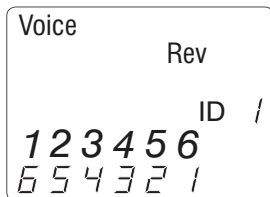

Figure 4. Voice Mode Test with Rev Cable
- **Single Test:** To run a single test on the 6-position connected voice cable, press the VOICE MODE button. The following appears in the LCD display screen (see Figure 4):
1. Continuous Test: To run a continuous test, press and hold down the VOICE MODE button until "LOOP ON" appears in the display (see Figure 5 below). When looping is active, three small moving "bars" appear on the right side of the display screen. The display screen will update with the icons and values that appear during a single test (see Figure 4).